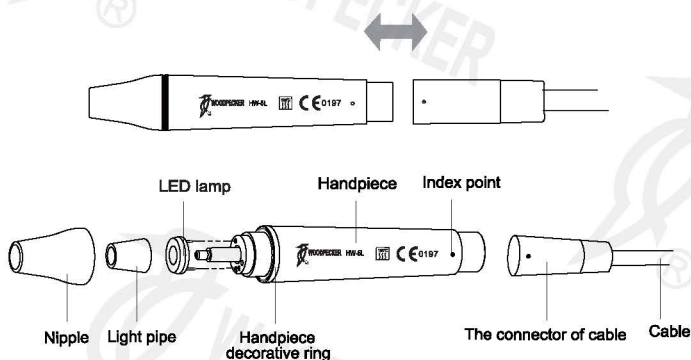

Figure 5
- ① **Don't pull out the handpiece when the foot switch is stepped on and the machine is producing ultrasonic vibration.**
- ② **Please don't choose dry mode unless needed in the treatment, please don't make the machine work under dry mode for a long time. The teeth will be hurt if the handpiece and tips get overheat during the treatment.**
2.1.2 Instruction for main components of detachable handpiece (See Figure 5):